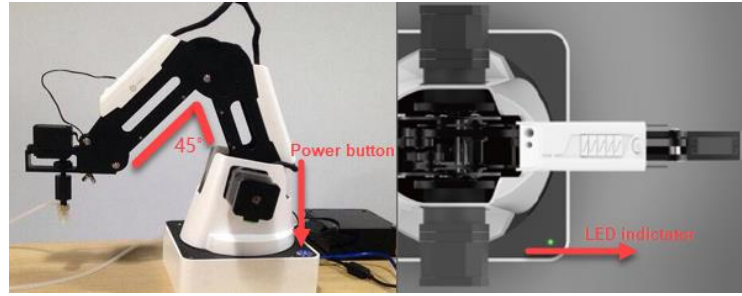

Figure 2.12 The gesture of Dobot Magician before power-on
- Power on:** align the Dobot Magician into its neutral position with its Forearm and Rear Arm constructing a 45-degree angle, and press down the power button in the base, as shown in Figure 2.12. Once the robotic arm is powered on, the LED indicator turns yellow, and all the stepper motors lock. And then wait about seven seconds, a short beep sound will be heard, and the LED indicator turns from yellow to green. Now the Dobot Magician is ready to use.